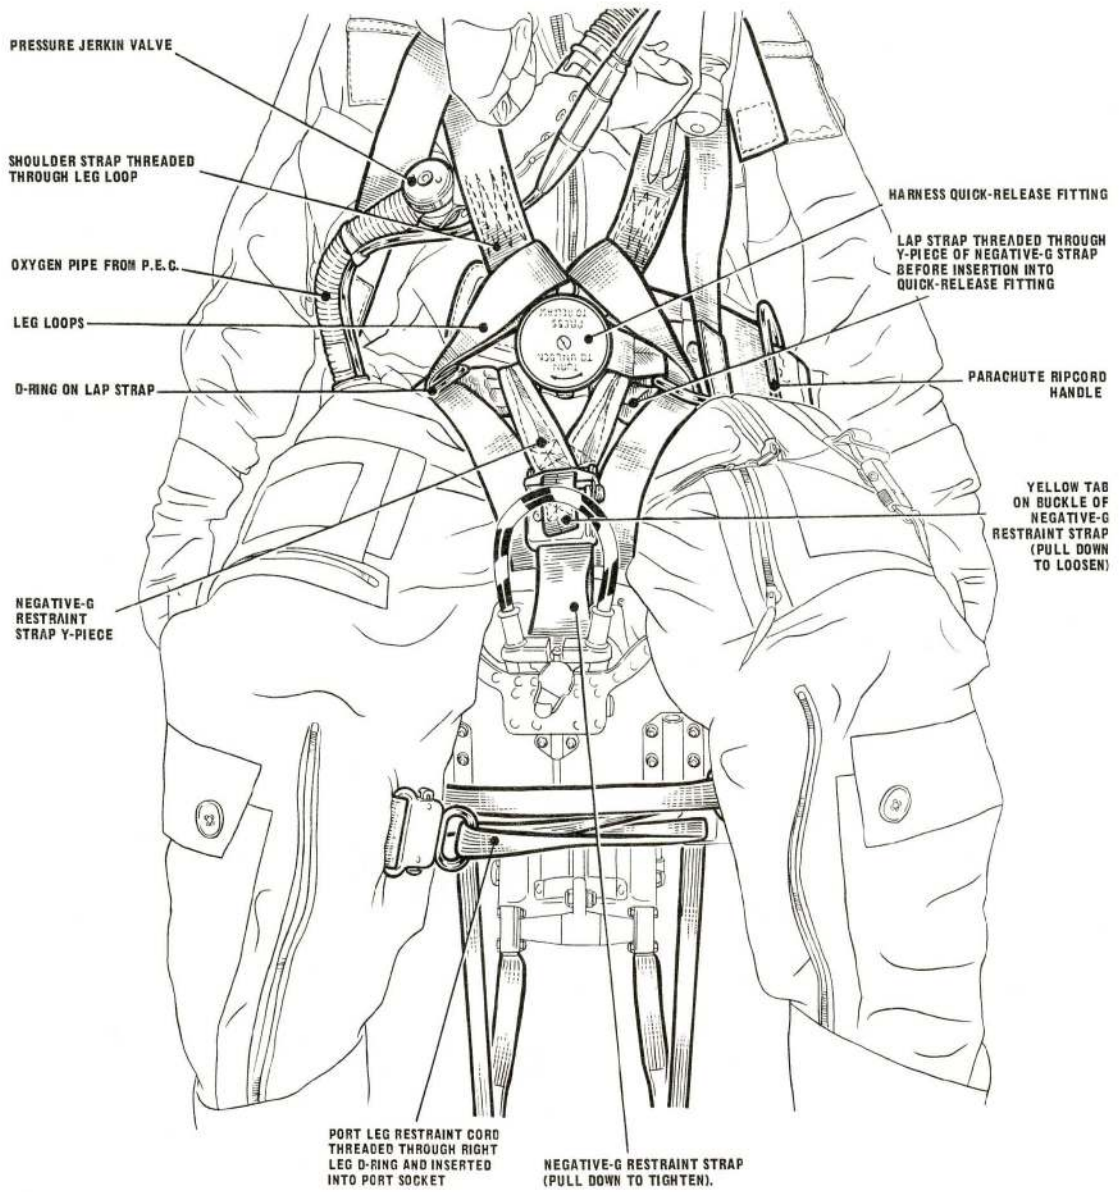

Fig. 8. Arrangement of leg restraint cords
Refer to figs. 8 to 10.
- (1) Ensure that the safety pins are correctly fitted in the 'safe for parking' condition.
- (2) Check that the static rods from the drogue gun and the barostatic time release unit are secured correctly
- (3) Grasp each lap strap and shoulder strap of the harness, pull sharply on each in turn and check for security
- (4) Sit in the seat and adjust its height; ideally the head should be central against the headrest wedge pad.
- (5) Remove the dust cover from the P E.C. and fit it into the stowage provided in the aircraft.
- (6) Connect the personal component of the P E.C to the seat portion.
- (7) Connect the personal survival pack lowering line to the corresponding fitting on the life jacket or pressure jerkin as appropriate ensuring that it passes outside the left leg.
- (8) Pass the left hand leg restraint cord through the right leg garter "D" ring and plug it into the socket above the left hand snubbing unit. Pass the right hand leg restraint cord through the left leg garter D-ring and plug it into the socket above the right hand snubbing unit. Pull sharply on both cords to ensure that they are locked correctly in their sockets. It is immaterial which cord is secured first but it is essential they are not interlaced (fig. 8).